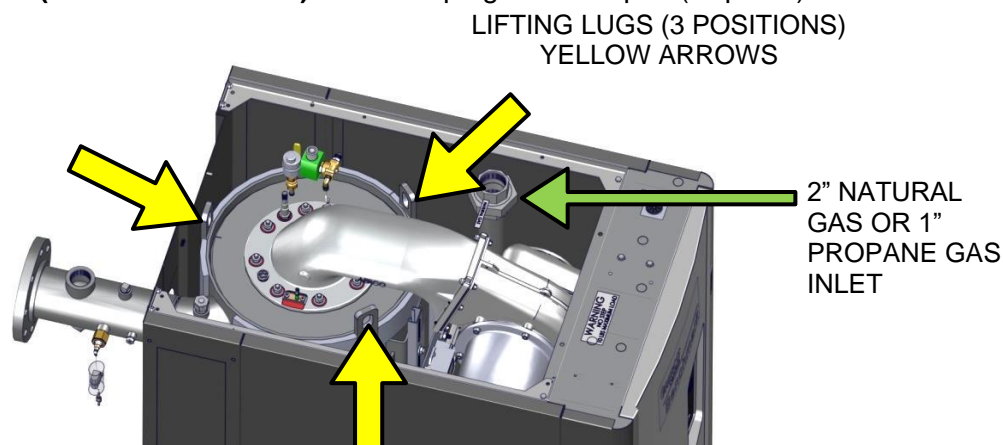

Figure 2-4b: Boiler Lifting Provisions – BMK1500/2000 Shown
Three lifting lugs are provided at the top of the primary heat exchanger as shown in Figure 2-4b. Remove the front top panel from the unit to provide access to the lifting lugs. Remove the four (4) lag screws securing the unit to the shipping skid. Lift the unit off the shipping skid and position it on the **4 inch to 8-inch (10.2 cm to 20.3 cm)** housekeeping concrete pad (required) in the desired location.